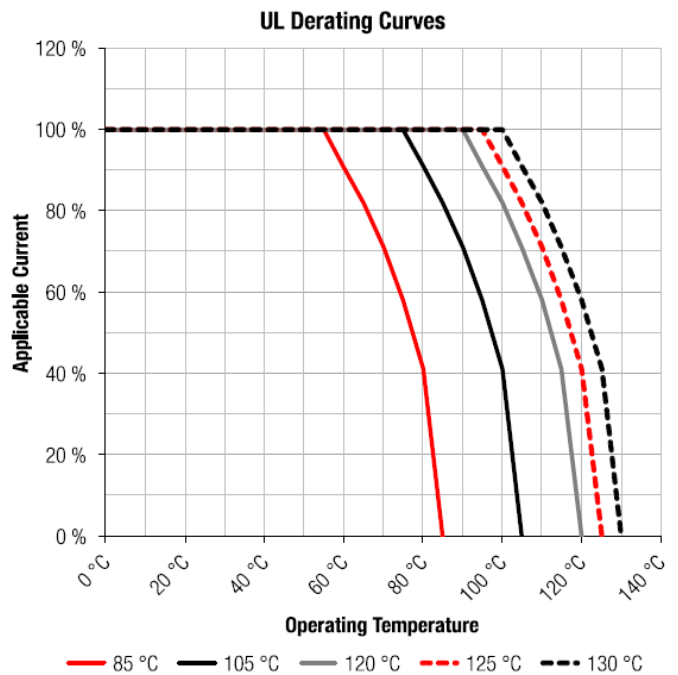
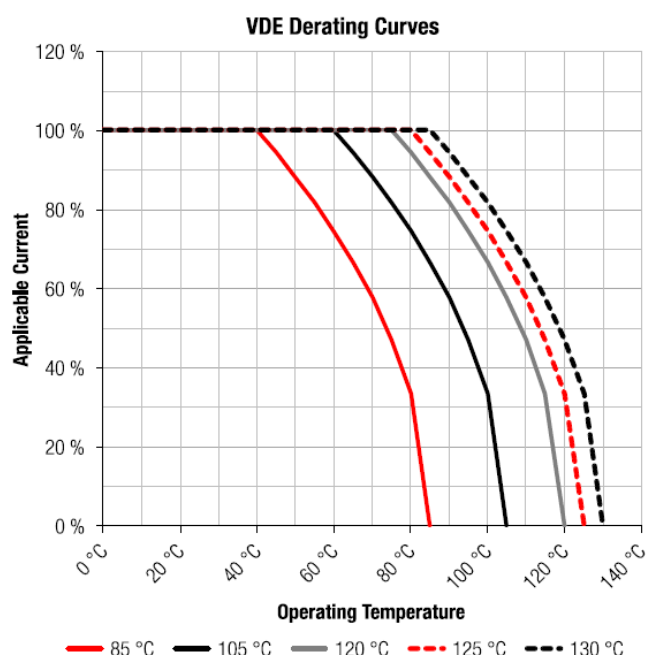

Figure 3: UL derating curves for different operating temperatures
Figure 4: VDE derating curves for different operating temperatures
- 以最高工作温度为85°C的产品为例，我们可以估计如下图3和图4中的降额曲线(红线)。